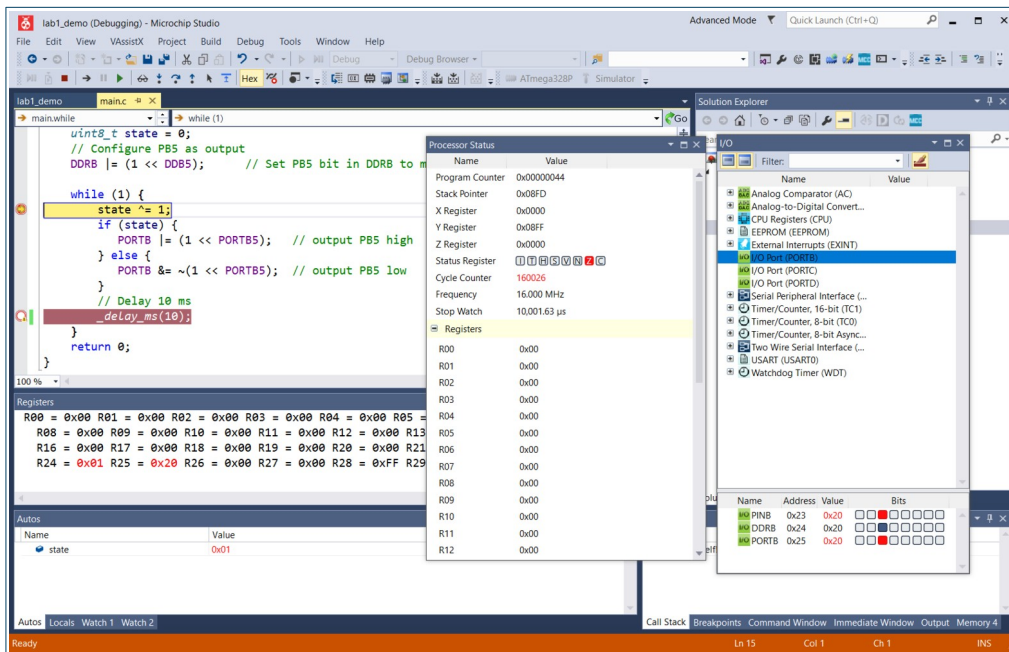

Figure 7: Stepping through the code until reaching the next breakpoint
- 2.6 Open the **Disassembly View** (**Debug** → **Windows** → **Disassembly**) to see the AVR assembly code which is results from compiling the C source code. Observe the changes in the I/O register values and the CPU cycle count (see **Figure 7**).